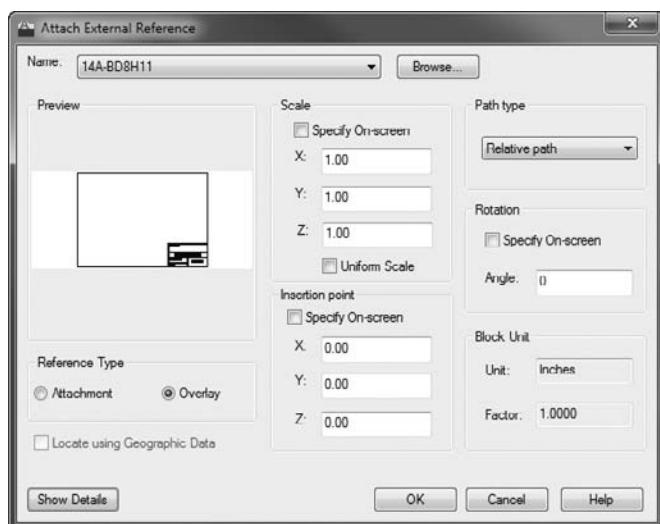

FIGURE 14.21 Attaching the title block as an external reference
7. Using Figure 14.21 as a guide, set the Path Type to Relative Path, and the Reference Type to Overlay. If Specify On-Screen is checked for Scale, Insertion Point, or Rotation, uncheck it. Finally, make sure the X, Y, and Z Scale is set to 1, the Insertion Point is 0,0,0, and the Rotation Angle is 0. With these settings in place, click OK.